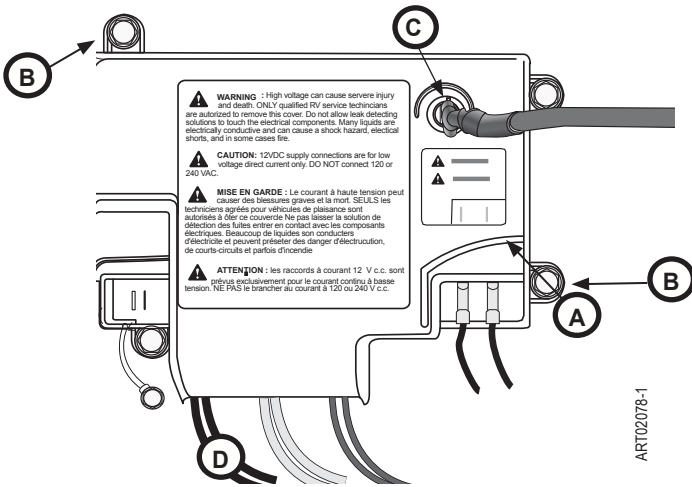

Fig. 3 - Power Board
1. Carefully remove connector of igniter wire (Fig.3.C) from power board (Fig.3.A). Do not pull directly on wire.
2. Remove power board cover screws (Fig.3,B) (2x); remove cover.
3. Disconnect AC heater wires (Fig.3,D) from terminals AC_HT_LO_2 and AC_HT_HI_2 at the power board.